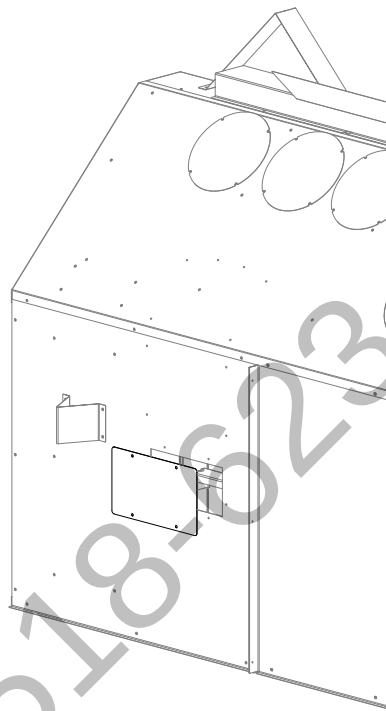
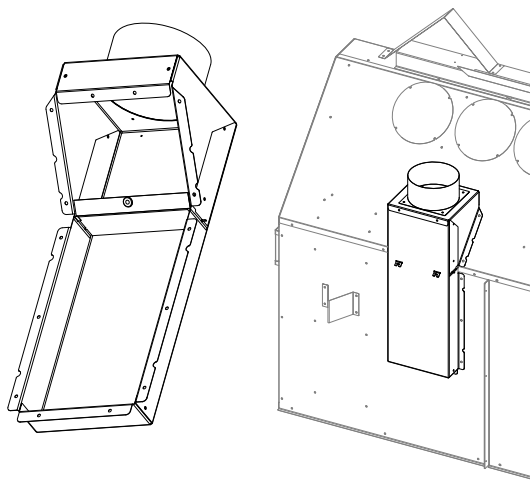

Figure 2.11 - Cover Plate Removal
Figure 2.12 - Air Chute Installation
7. Remove sheet metal screws securing the HTK cover plate on your fireplace. FIGURE 2.11 is an example of a HTK cover plate on the CLW-72. The location of the HTK cover plate might vary depending on the model. Refer to your fireplace manual for this information. CLW-ST: Both rectangular cover plates on the outer shell of the appliance must be removed.
8. CLW-ST: There are (2) openings on the HTK-CWST air chute that allow for installing one or two of the same heat transfer kit. If installing (1) kit, remove (1) cover plate to install (1) collar. If installing (2) kits, remove (2) cover plates to install (2) collars.
9. Install the unit specific heat transfer kit air chute. Use the metal screws provided in the kit to install the air chute to the fireplace. Reference the included instructions in the unit specific HTK air chute for your model. When the air chute is installed, make sure the damper lays against the outer shell of the fireplace when in resting position. Ensure the damper will move freely when the fan is engaged. See FIGURE 2.12.
10. Install the collar provided with the air chute using (4) sheet metal screws.